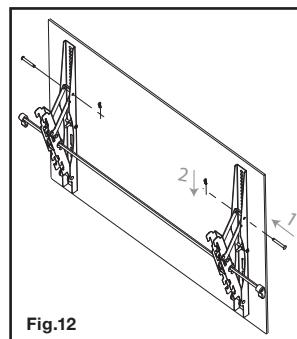

Fig.12
8. Close the mount arms by returning them to the original position. Insert the pin and replace the clip on both arms (see Fig.12). Make sure the tilt adjustment rod is turned to the locked position by rotating the knobs away from the display. **The mount arms must be fully closed and locked before moving on to the next part.**